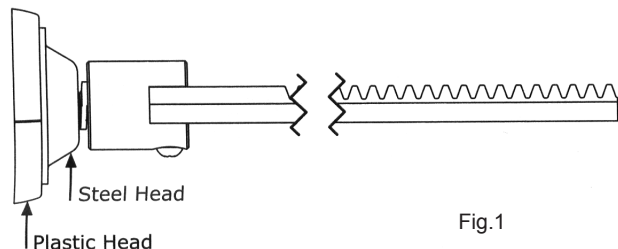
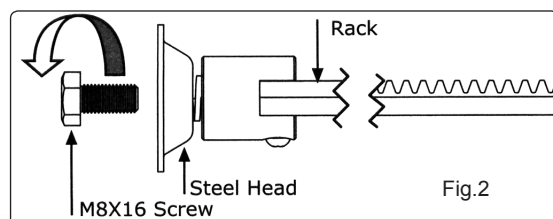

Fig.1
Fig.2
- 3.2.1. Ensure plastic head (fig.1) is fitted. If not, unscrew and remove the compound holder, loosen the M8 screw (fig.2) fit the plastic head (fig.3) and tighten the M8 screw.